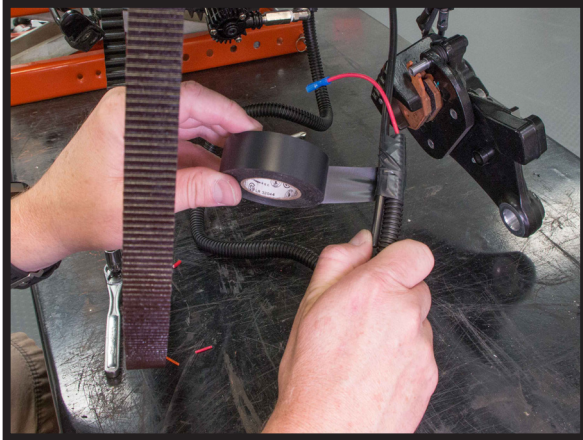

FIGURE 11
6. ATTACH THE END OF THE SPLIT LOOM TO THE END OF THE 1/4" HOSE WITH TAPE. THEN USE THE 1/4" HOSE TO PULL THE SPLIT LOOM TO THE TOP OF THE BATTERY BOX. (FIGURES 11, 12)